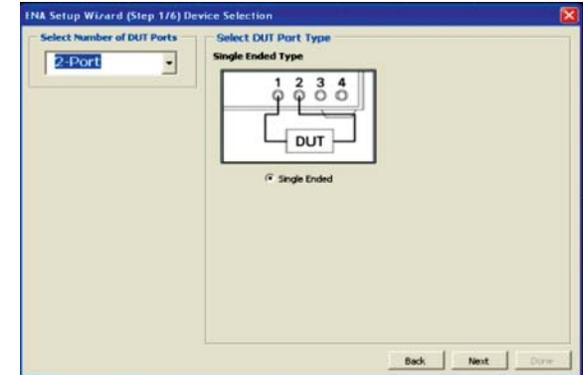

Figure 3. Device selection
- c. Select "2-port" for number of DUT ports and DUT port type (Figure3)